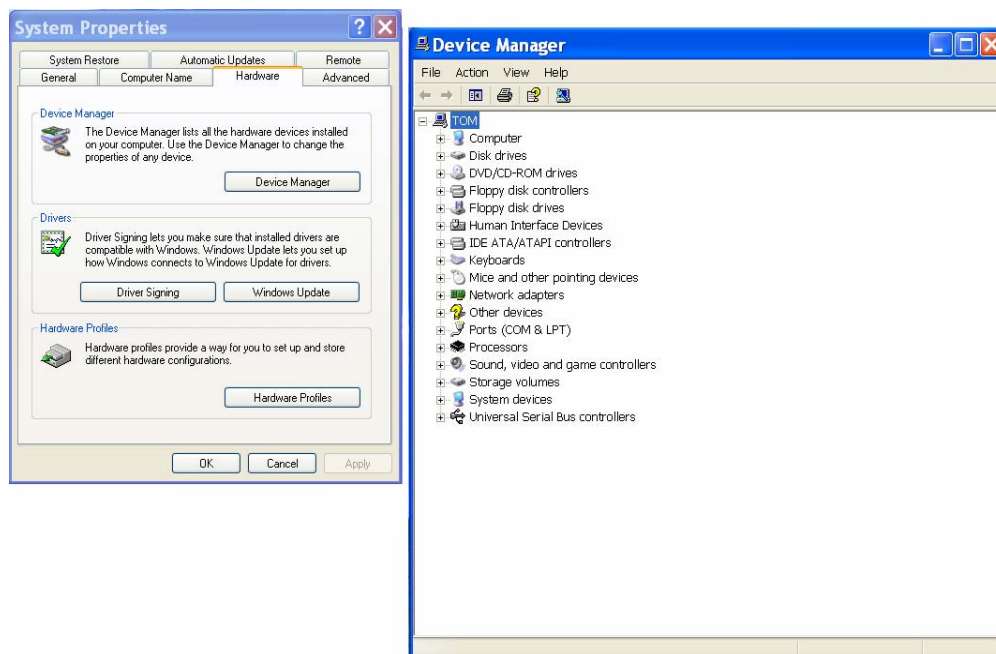

Fig.3-7 : Device Manager in Hardware of System Properties
Step 2 : Click **【Hardware】** , then click **【Device Manager】** ; The Device Manager in Hardware of System properties will be shown as Fig.3-7 ◦